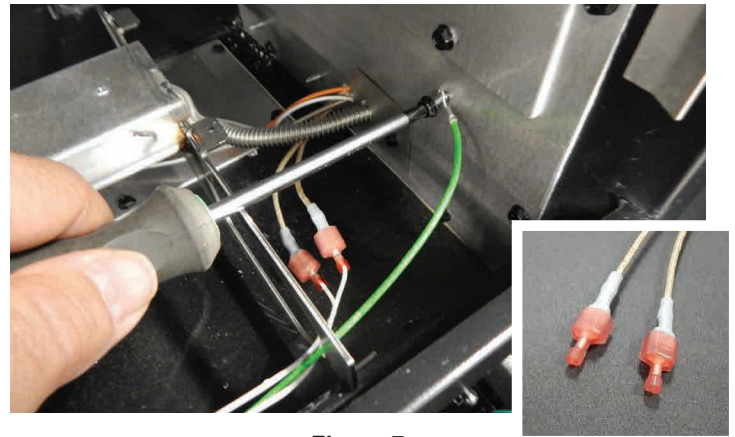

Figure 7
- Locate and remove the 5/16 Hex Hd screw on the right side of the Firebox as shown in **Figure 7**, then re-install while securing the end of the Green Ground wire terminal. Remove the two pink protective terminal caps from the two tan light accessory wires located near the right side of the firebox (see inset) and discard, then connect these tan wires to the LK9 Light wire terminals. **See Figure 7.**